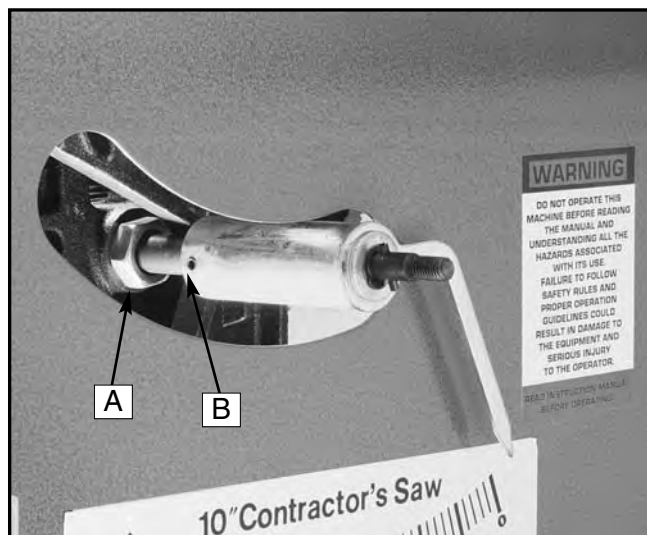

Figure 48. Handwheel resistance adjustment.
1. Loosen the lock nut (A) shown in **Figure 48**. This will allow the eccentric sleeve that surrounds the worm gear to turn. Although this process can be done with the handwheel in place, you may find it easier to remove it first.